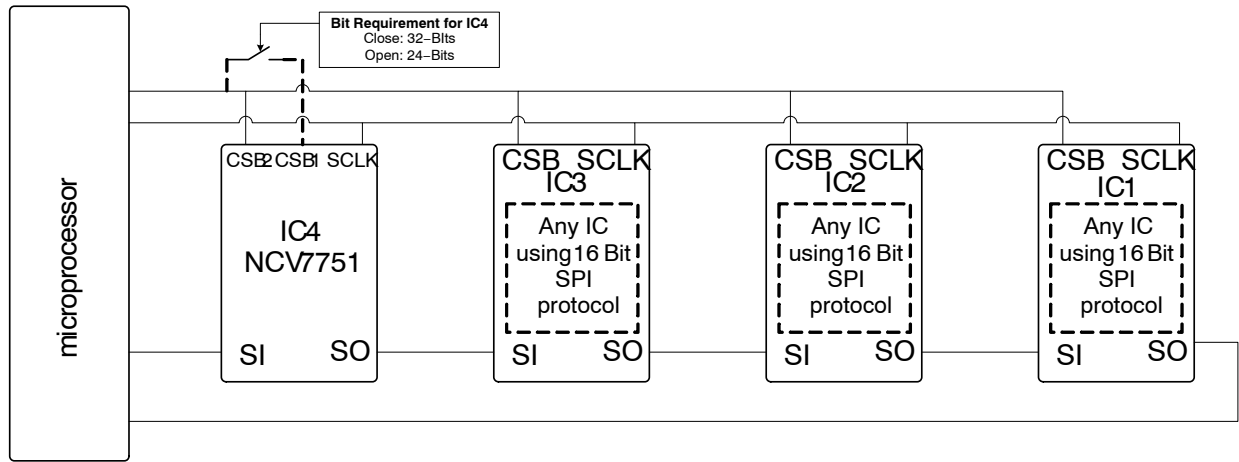

Figure 27. Serial Daisy Chain
Daisy chain setups are possible with the NCV7751. The serial setup shown in Figure 27 highlight two daisy chaining configuration with the NCV7751:
1. Either tying (switch closed in Figure 27) or stimulating the CSB1 and CSB2 signals together
2. With only CSB2 pin (switch open in Figure 27)
Table 5 refers to the progression of data over time of the Serial Daisy Chain setup of Figure 27 with the switch closed as word bits are shifted through the system. 80 bits are needed for complete transport of data in the example system. Each column of the table displays the status after transmittal of each word (in 16 bit increments) and the location of each word packet along the way.